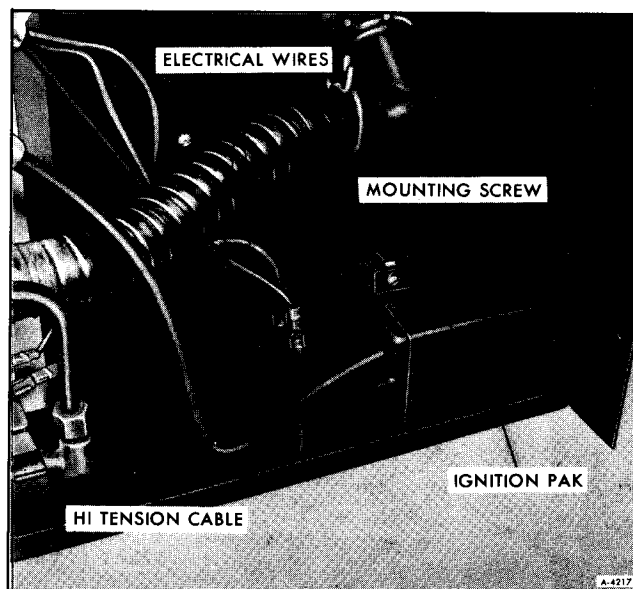

Figure 21—Ignition Pak Installed
5. Disconnect two electrical wires from ignition pak (See figure 21). Be sure to note which terminal each wire is removed from, to aid in proper installation.
1. Position ignition pak under mounting strap as shown in Figure 21. Tighten mounting screw.